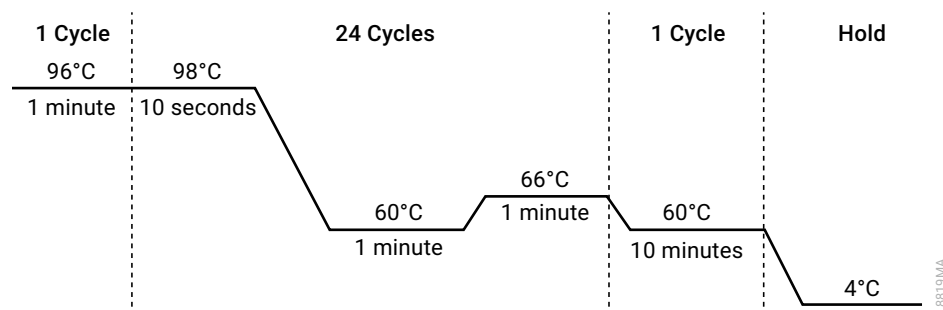

Figure 6. Thermal cycling protocol for the ProFlex® PCR System.
2. Select and run the recommended protocol provided below and in Figure 6. The total cycling time is approximately 75 minutes.